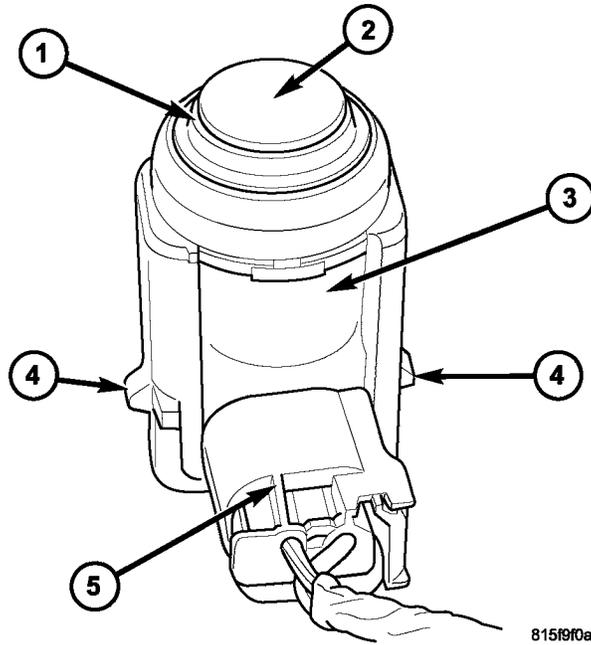

Fig. 1 PARK ASSIST SENSOR
- 13. Install the new sensor spacer. Verify that the spacer is correctly installed on the sensor and fully seated (Fig. 1).